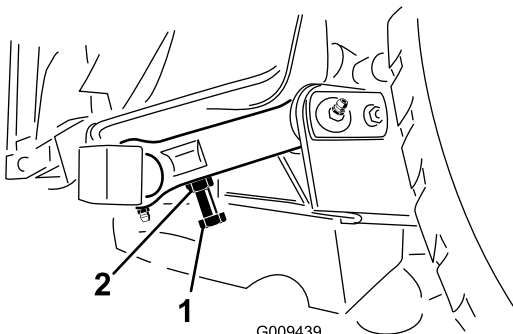

Figure 28
3. To adjust distance, locate adjuster bolt on rear pivot link of the mower deck (Figure 28).